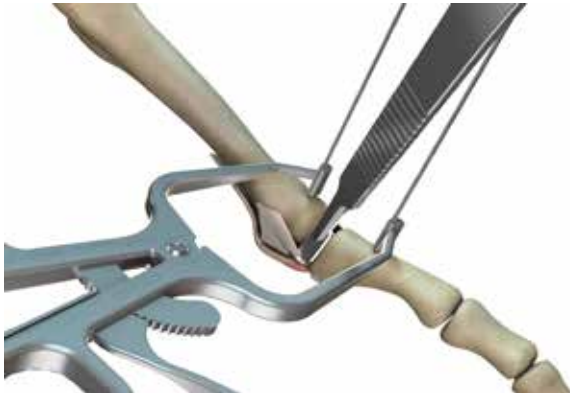
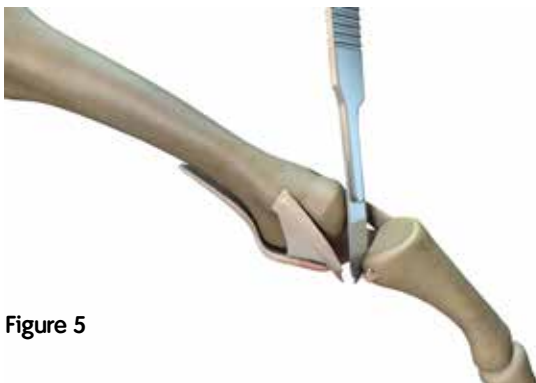

Figure 4
Figure 5
6. Under tension, dissect the collateral ligament (Figure 4) and approximately 50% of the plantar plate ligament (Figure 5) using a #15 blade precisely at the level of the metatarsal head. Ensure that the Flexor Digitorum Longus Tendon (FDL) is not damaged during the dissection.